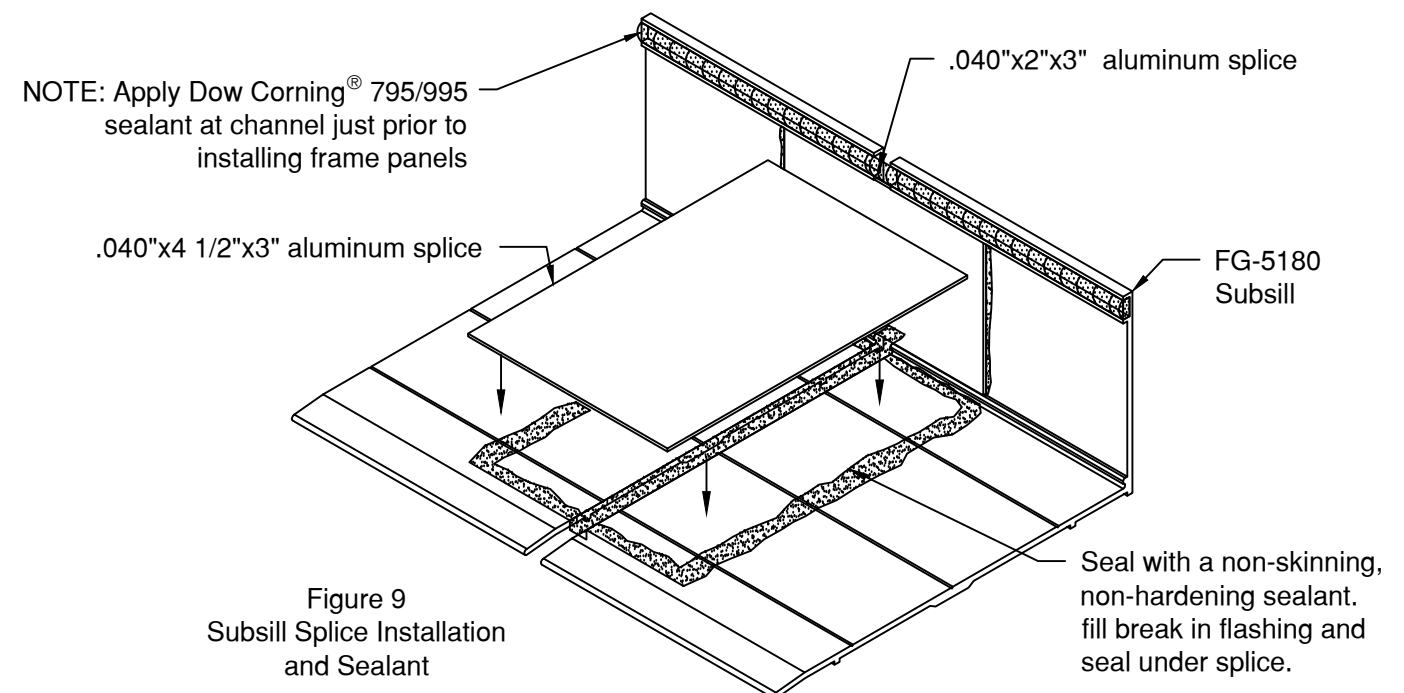

Figure 9
- 3.1.3 Apply sealant to 0.040\" alum splice plates as shown at all subsill splices. SEE FIGURE 9.